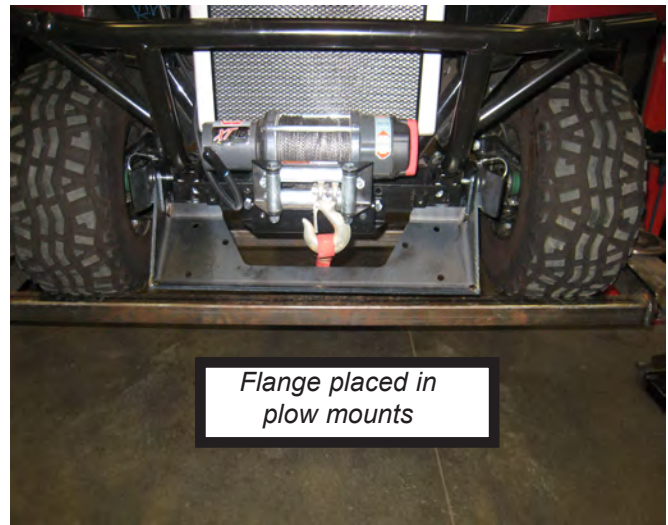

Figure 4
4. Insert the plow flange (A3) into the plow mount and install the pins. With the flange installed, adjust the plow mounts. The plow mounts should be straight with the ears of the flange. When the plow mount fasteners are tightened, the flange should be able to slide in the plow mounts easily. See figure 4.